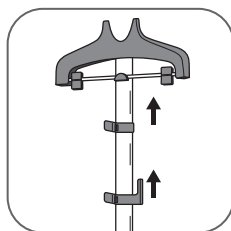

fig. 6a
6. Adjust the handle to the height required by sliding it upwards then locking the 2 clips. (fig. 6a, 6b)